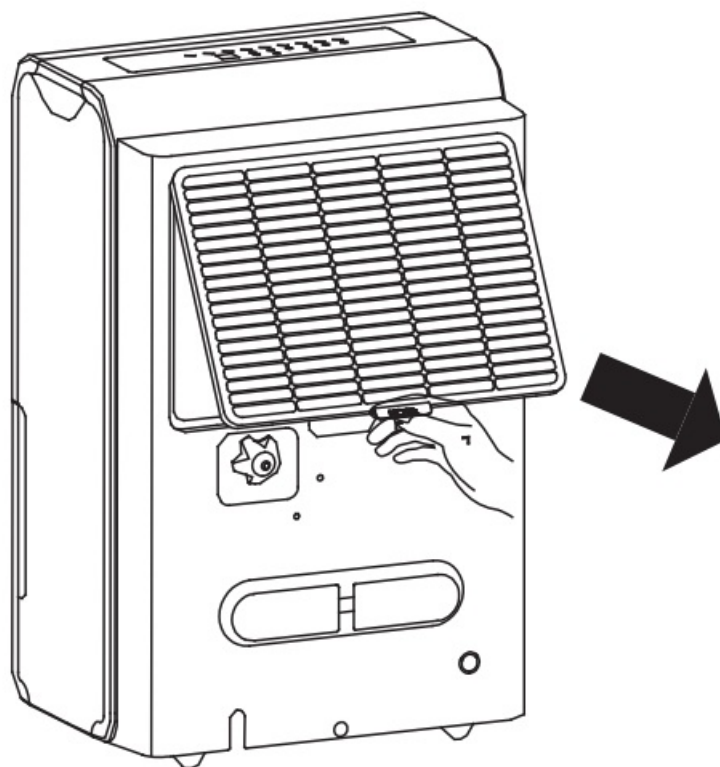

Fig. 14
- To remove the filter, pull filter outwards (See Fig. 14).